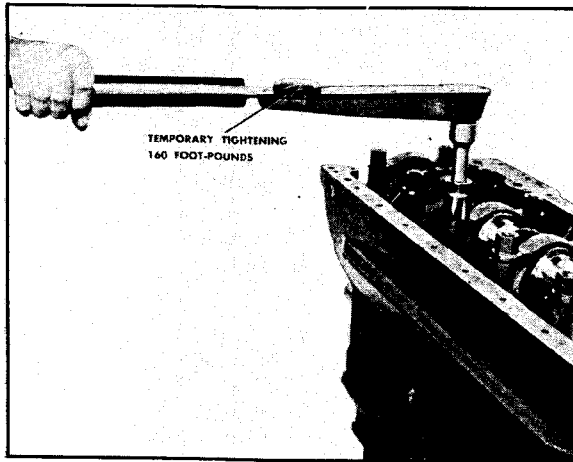

Fig. 12-8. Tightening stud nuts to 160 ft. lbs. to set caps and bearings
2. Tighten main bearing stud nuts to 160 foot-pounds with a torque wrench. This is not operating tension: This step is used only to set the shells, caps and lock plates. Fig. 12-8.